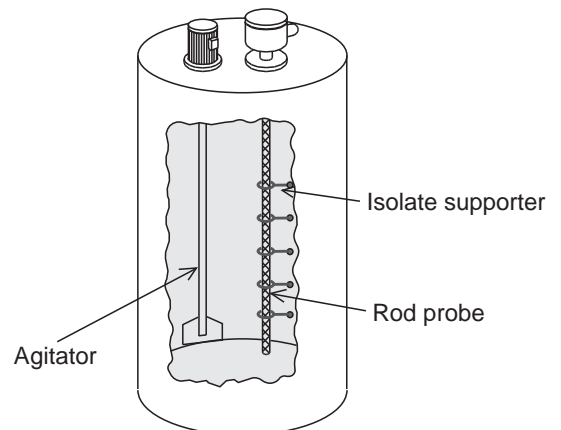

Fig. 4
5. Make sure to fix the rod probe or cable probe to the container wall with non-conductive supporting material. If an agitator is in place (see fig. 4). This will prevent the deformation of the rod probe and tangling of the cable probe around the agitator.